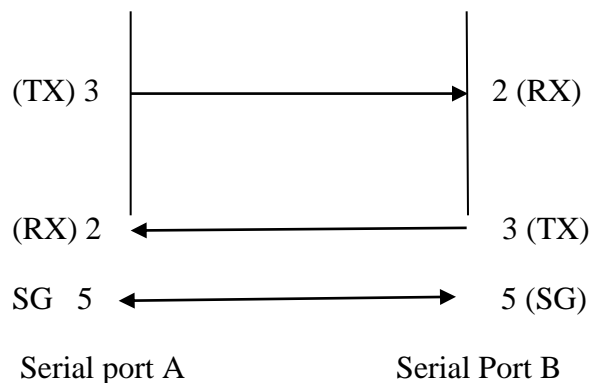

Fig 2: Wiring diagram of Serial communication (Null Modem)
- ii. Set-up the Null Modem; Connect the wires according to figure 2.